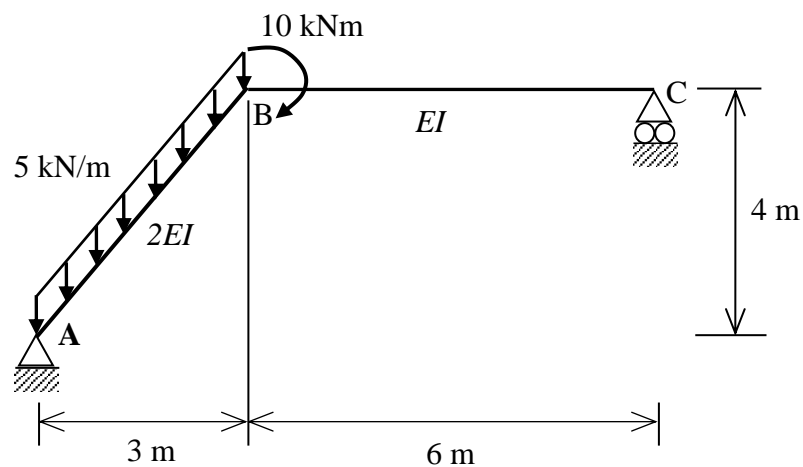

Figure 6 / Rajah 6
6. (a). **Figure 6** shows a frame subjected to a concentrated moment of 10 kNm about point B and a uniformly distributed load of 5 kN/m along span AB. Use the virtual work method to determine the horizontal deflection at joint B of the frame. Take $E = 200$ GPa and $I = 300 \times 10^6$ mm⁴. Neglect the deflection due to axial work.